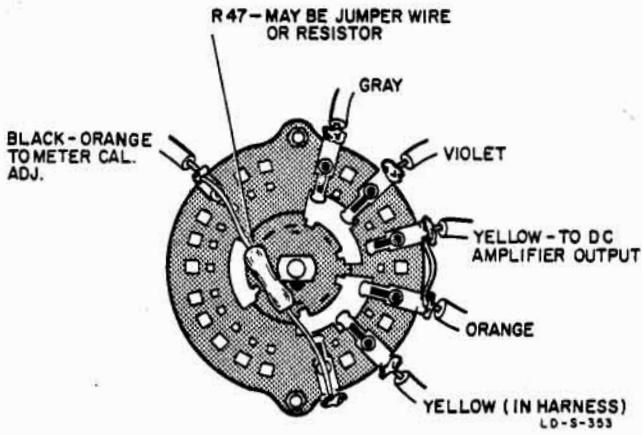

Figure 3. Polarity Switch Wiring
- ✓ 14) Refer to figure 3. Unsolder yellow wire (to DC AMP terminals at rear) and black-orange wire (to R46 METER CAL control) from POLARITY switch.
- 41) Solder yellow wire from DC amplifier OUTPUT terminal lug nearest R36 (OHMS ADJ. control) to POLARITY switch (see figure 3).
- 42) Refer to figure 3. Remove R47 from old POLARITY switch and install on new switch. Note: R47 may be a resistor or a jumper wire. See Service Notes 412A-1.
- 43) Solder black-orange wire from R46 (METER CAL control) and yellow wire from DC AMPLIFIER OUTPUT terminal to POLARITY switch to agree with figure 3.